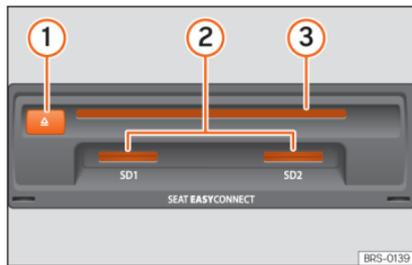

Fig. 224 Slots for data storage devices in the glove compartment.
- Push the CD or DVD into the DVD slot »» Fig. 224 ③ to the point where it is drawn in automatically.
Insert the compatible memory card, bevelled edge first and with the label face up (contacts face down), into slot »» Fig. 224 ② or »» Fig. 199 ⑨, until properly inserted.